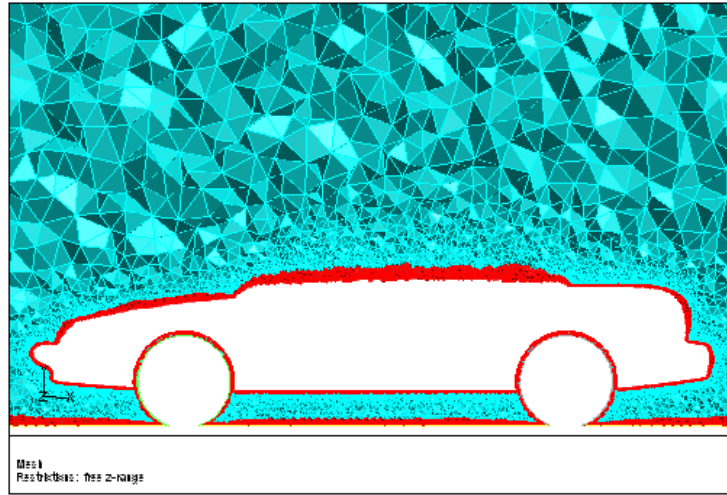

Figure 4.6: Slide of Cells at $z = 0.38$
- (c) Enable All in the Options group box and click Display (Figure 4.6).